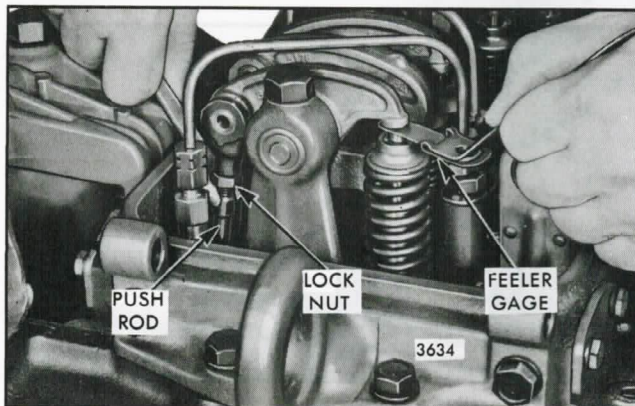

Fig. 1 - Adjusting Valve Clearance (Two Valve Head)
5. Place a .012" feeler gage (J 9708-01) between the exhaust valve stem and the rocker arm (Fig. 1). Adjust the push rod to obtain a smooth pull on the feeler gage.